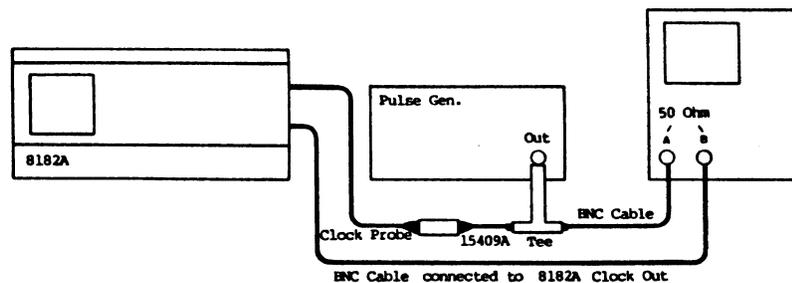

Figure 4-6 Clock Threshold and Hysteresis Test Setup
5. Connect equipment as shown in figure 4-6, set oscilloscope timebase to .5 us and trigger with channel B (8182A clock out)
7. Switch oscilloscope input (A) to 50 Ohm.